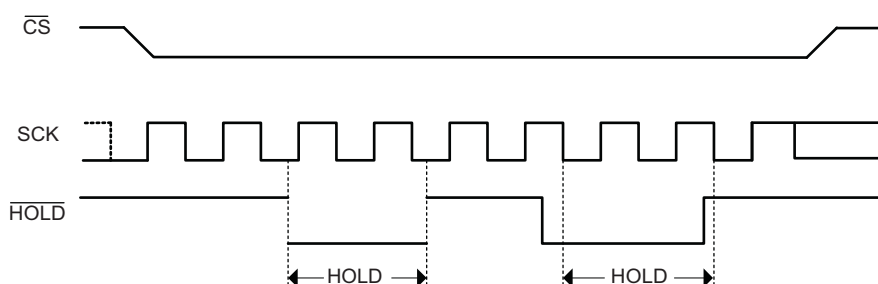

Figure 2. Hold Condition Activation
The Hold condition starts when the Hold (\overline{HOLD}) signal is driven low at the same time as Serial Clock (SCK) already being low (as shown in Figure 2).
The Hold condition ends when the Hold ($\overline{\text{HOLD}}$) signal is driven High at the same time as Serial Clock (C) already being low. Figure 2 also shows what happens if the rising and falling edges are not timed to coincide with Serial Clock (SCK) being low.